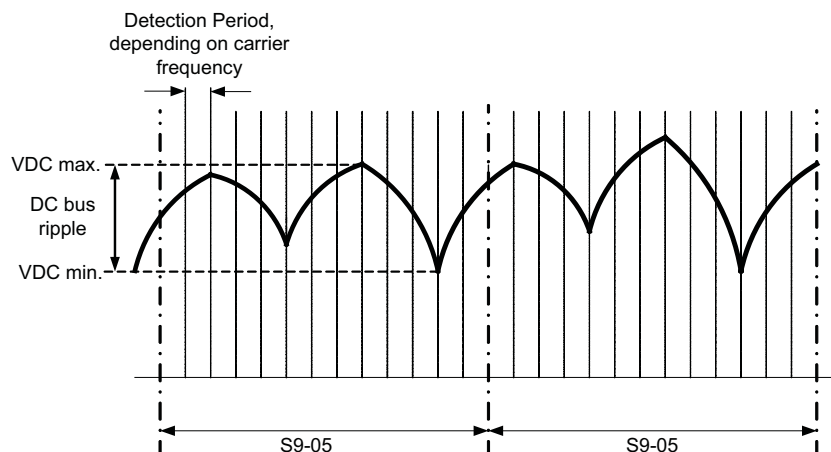

Fig 6.95 One Phase Loss Detection
- The 1 phase loss of the power supply is detected by measuring the ripple of the DC bus voltage. The detection is tuned with parameters S9-04 (KEB 1 phase loss detection level), S9-05 (KEB 1 phase loss detection time) and S9-06 (KEB 1 phase loss detection intervals), see Fig 6.95 for details